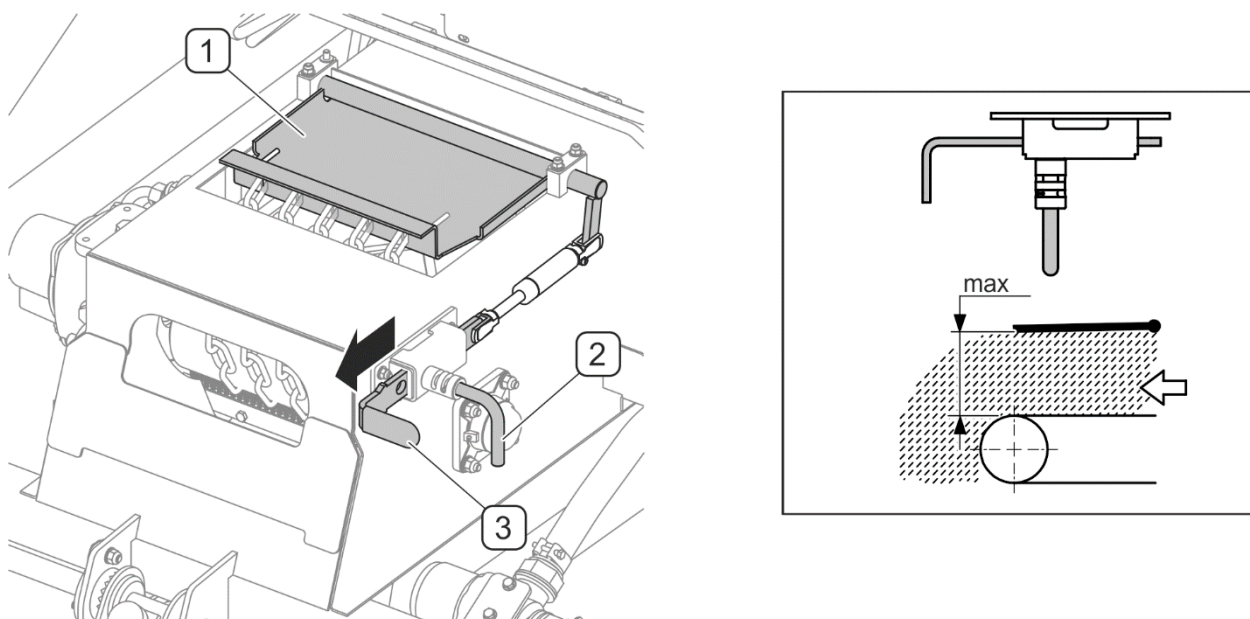

FIGURE 4.33 Setting the belt conveyor barrier for unloading
- set the belt conveyor barrier to maximally open position (FIGURE 4.33),
(1) - spreading mechanism; (2) - clamp bolt; (3) - grip
To set the barrier (1) for unloading, (FIGURE 4.33) turn and pull the pin (2) and raise the barrier by pulling the slide (3). The barrier is set to maximally open position (FIGURE 4.33) only when material is being unloaded from the tank.